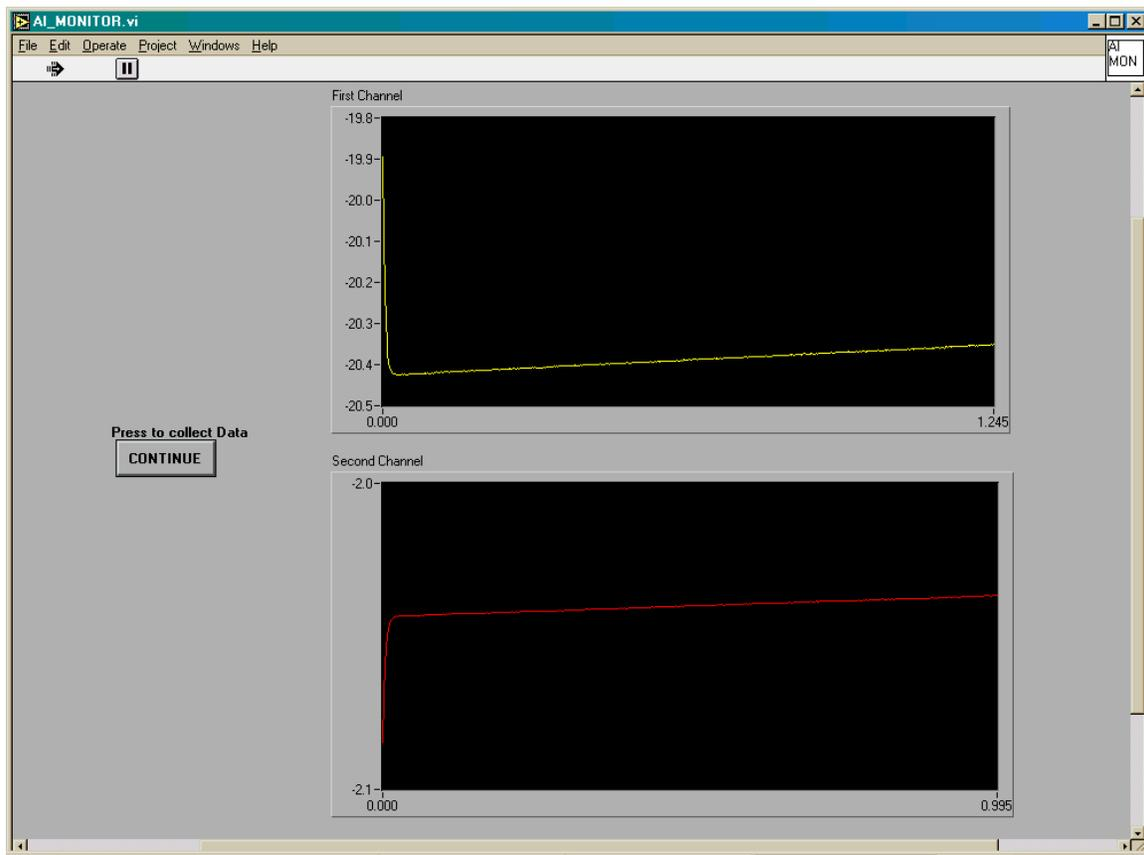

Figure 10. Data monitor window - protocol start control
12. On the right of the front panel are two display windows, the upper for the force traces and the lower for the position traces. Between the graphs are the 'Erase Outputs', 'Erase All', 'Monitor Outputs', and 'Browse / Export Data' buttons. Pressing the 'Erase Outputs' button will remove the currently displayed output data. 'Erase All' removes all currently available output data. Press the 'Monitor Outputs' button to observe the outputs in a scrolling type, close to real time display, as shown below in Figure 10, except that pressing the continue button in this case will return the user to the front DMC panel. The monitor panel is useful for assessing whether or not steady state has been achieved in the bath or assessing the level of noise in the data. The 'Browse / Export Data' button is used to perform basic data analysis and export the collected data from the current protocol to an ASCII file. The ranges for the X and Y-axes can be user selected or auto scaled. The time base (X axis) is determined by the test duration setting noted above. The force (Y axis) can be set to change automatically with the range in the data collected. Right clicking with the mouse on the displays brings up a menu that includes Auto scale X or Auto scale Y-axes. If Auto scale is deselected then axes ranges can then be altered at the base (X) or left (Y) of the displays by clicking on the desired time point with the left button of the mouse and entering a new value. The lines representing 'Force Out, Position In and Position Out can be displayed in user selected colors and line widths. Select the line to be changed in the inset box for Force or Position using the mouse pointer and left click on the mouse. A window will appear with several options for adjusting the line parameters (e.g., line width), one of which is line color. The 'Stimulus' will only be displayed if the sampling rate is high enough, 10kHz or greater for a 200 μ s stimulation pulse width. The equivalent frequency for this pulse width is 5000 Hz (1/0.0002) and to observe the pulse the sampling rate must be at least double the maximum equivalent stimulus rate. The Stimulus line characteristics can also be changed. When the test length is changed the program automatically resets the x-axis range.
The lower the acquisition frequency, the closer to real time the display of data becomes. Regardless of the appearance of the display however, data is being continuously acquired at the user specified rate. If the program was in 'Run One' mode or there was only one protocol in the sequence, control will return to the DMC front panel with the collected data displayed in the data plots of the main screen. If more protocols follow, the next protocol is loaded and the program enters the monitor outputs window if the remaining wait time is greater than 5 seconds or the user has selected to control the start of the next protocol from this window. Figure 10 shows the screen for the case of user controlled protocol execution start. For the case where the wait time remaining is greater than five seconds, the window will show a timer counting down the remaining time, along with an abort button to immediately cancel this protocol and all remaining protocol execution.
Figure 10 shows an example of a response from a mouse extensor digitorum longus muscle to a high frequency stimulation (150 Hz tetanus). The 'Stim Rate' is set to 150 Hz and the 'Single Pulse' box has been deselected by left clicking the mouse over it. A stimulus train at 150 Hz is delivered to the muscle for 0.9 s when 'Begin Test' is selected and the 'Done' button pushed in the 'Comment' window that pops up.